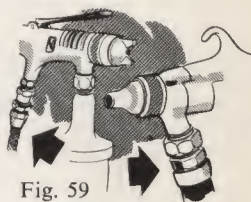

Fig. 59
69. What types of hose are used in spray painting? (Fig. 59)